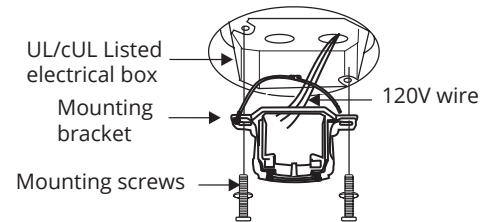

FIGURE 7
3. Pass the 120-volt supply wires through the center hole in the ceiling mounting bracket as shown in Figure 7.
4. Secure the mounting bracket to the ceiling outlet box with the screws and flat washers provided (Fig. 7).